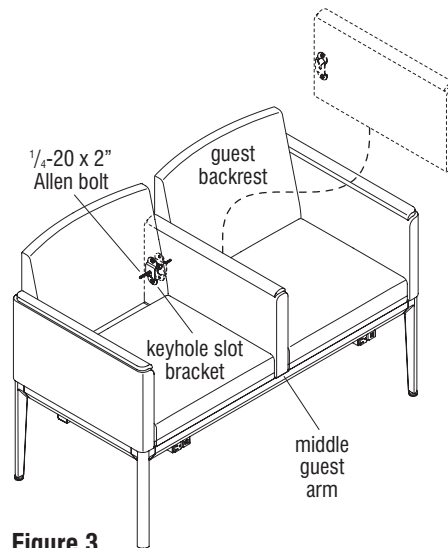

Figure 3
4. With the assistance of a second person, carefully turn the guest unit to the upright position (Figure 3).
5. Lift up on the middle guest arm to disengage the keyhole slot brackets on each side of the arm from the $\frac{1}{4}$ -20 x 2" Allen bolt on each backrest and remove the arm from the bottom of the seating unit frame (Figure 3 & Detail B).
1. Align the larger openings of the keyhole slot brackets on each side of the replacement guest arm with the heads of the $\frac{1}{4}$ -20 x 2" Allen bolts at the side of each backrests so the brackets will rest on top of the bolts, allowing the replacement arm to be lowered into the original location on the seating unit frame (Figure 3 & Detail B).